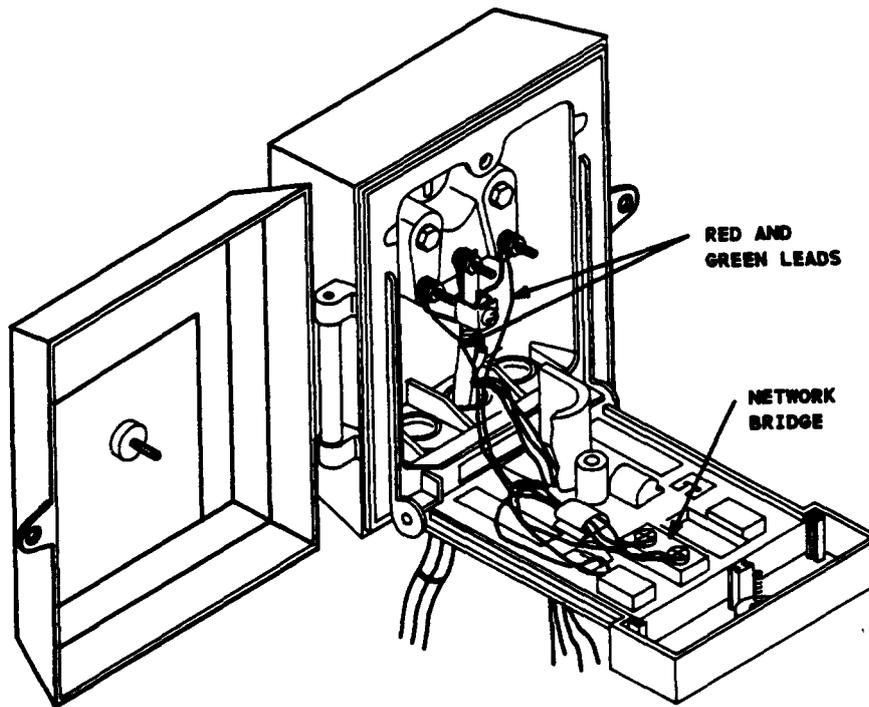

Figure 10. Attaching Leads from Network Bridge to Protector
- (4) If the unit is equipped with a 7A half-ringer or no electronics, attach the red and green leads coming from the network bridge to the tip and ring of the protector (Figure 10). If the unit is equipped with a 6A MTU, attach the leads coming from the MTU to the corresponding terminals on the protector block. Close and secure the swing plate of the NIU using the KS-19192 L2 security tool.